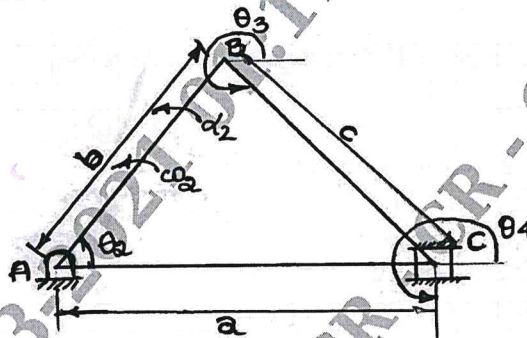

Fig.Q.5(b)
b. For the mechanism shown in Fig.Q.5(b) includes a crank of 50mm length and the connecting rod of 200mm length. The crank speed is constant at 300rpm. Determine the angular velocity and angular acceleration of the connecting rod by using complex algebra method, when the crank angle is 30° . (12 Marks)